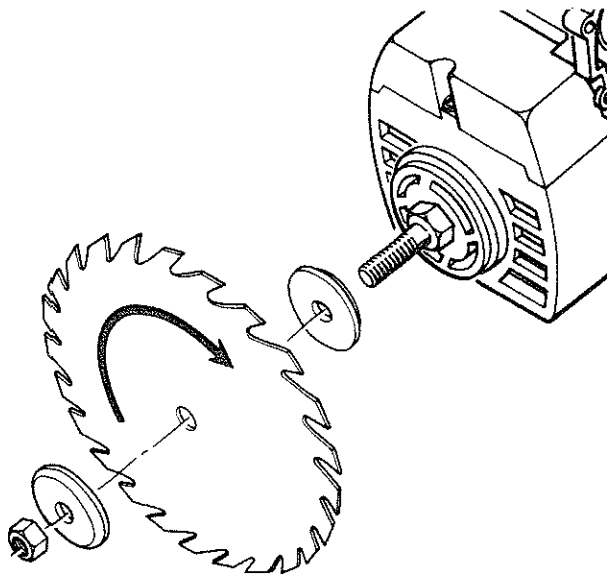

Fig. 104
2. Place the *blade* on the *arbor shaft* with a *blade collar* on each side. Make sure that the directional arrow is on the outside of the *blade*, and the teeth are pointing down at the front side of the *blade*. (Figure 104)